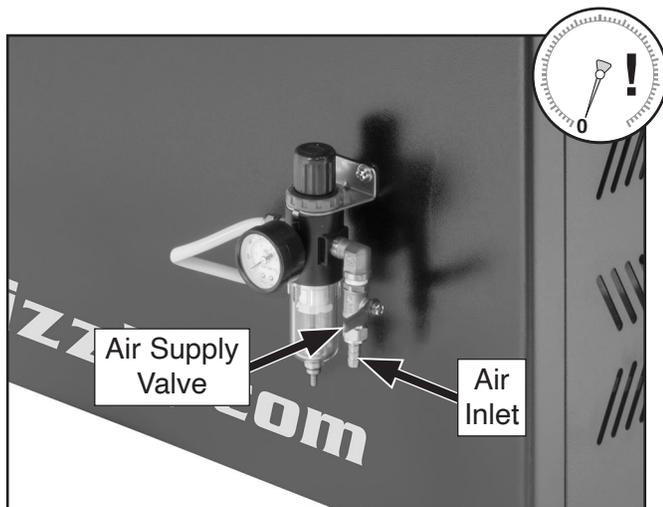

Figure 17. Location of air inlet and air supply valve on regulator.
2. Connect air supply hose to air inlet on regulator (see **Figure 17**) and secure with hose clamp.
4. Make sure red air supply valve on regulator (see **Figure 17**) is in open position.